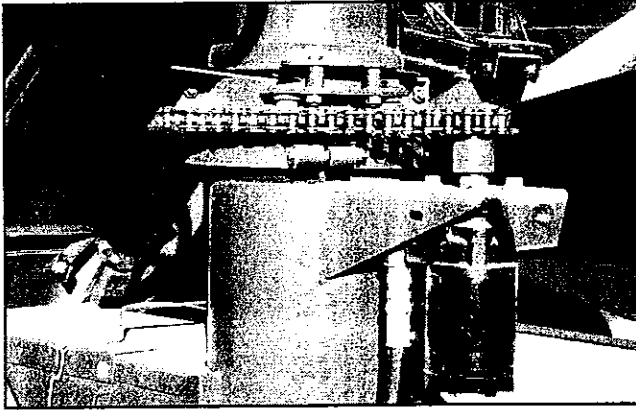

Figure 52: Hydraulic swing adjustment (shield removed for clarity).
If any problem is encountered with this drive, adjust and/or check as follows: (see Figure 52, page 23).
5. Adjust spring tension (see arrow in Figure 52) to be sure auger will slip if it hits something solid. If it doesn't slip, damage to discharge could occur.